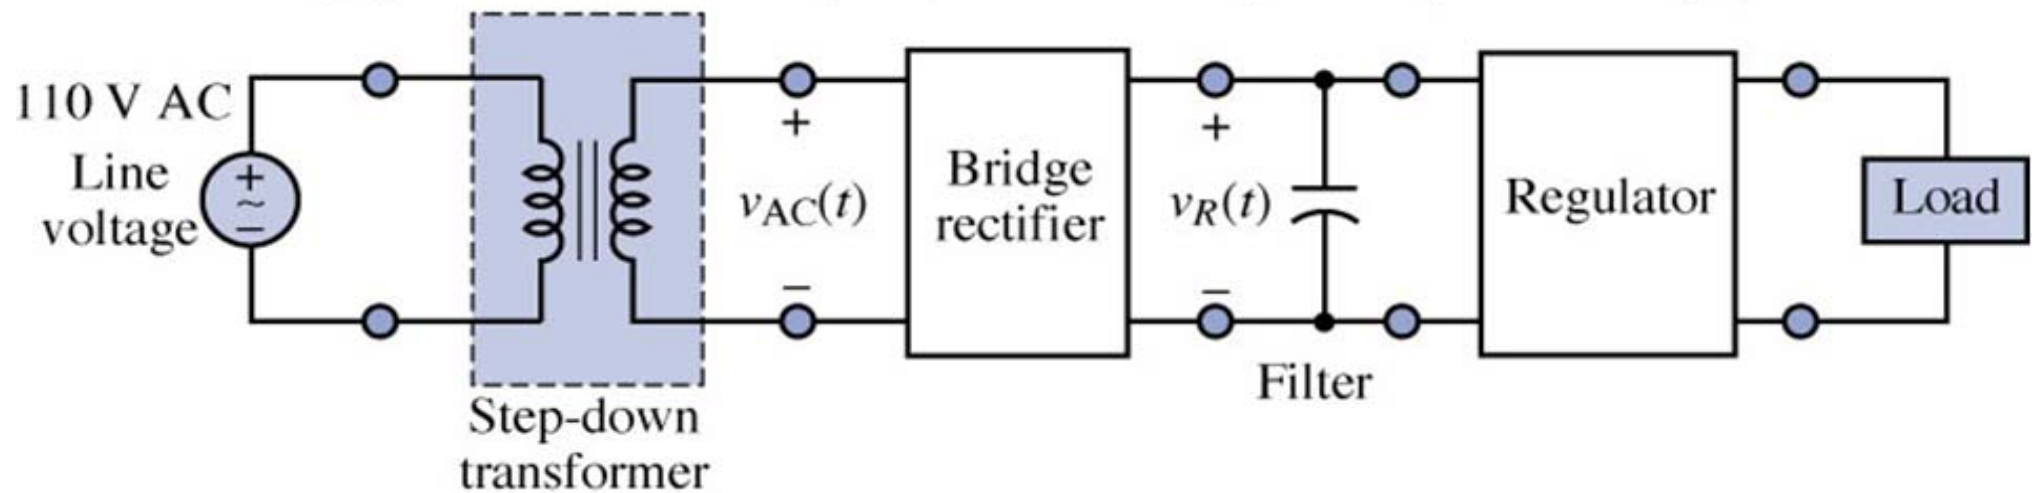

Figure 4.10: Regulated DC power supply.
- A typical regulated DC power supply circuit is as shown in Fig. 4.10.